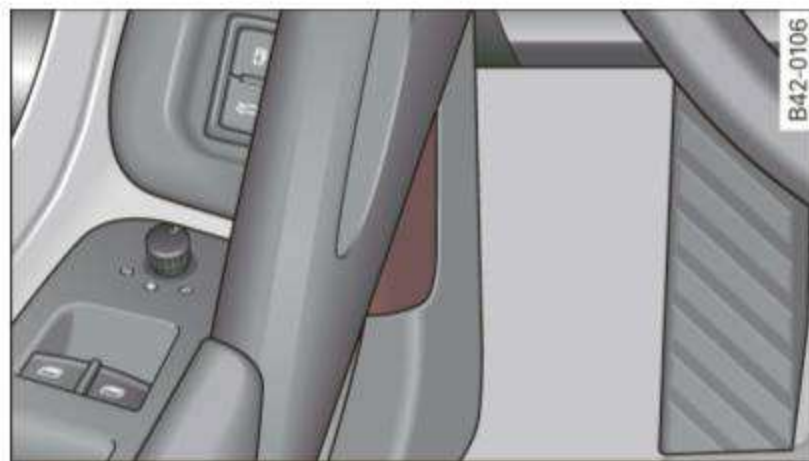

Fig. 117 Driver's side footwell: engine compartment lid release lever
- Pull the release lever on the left under the instrument panel ⇒ *fig. 117*.